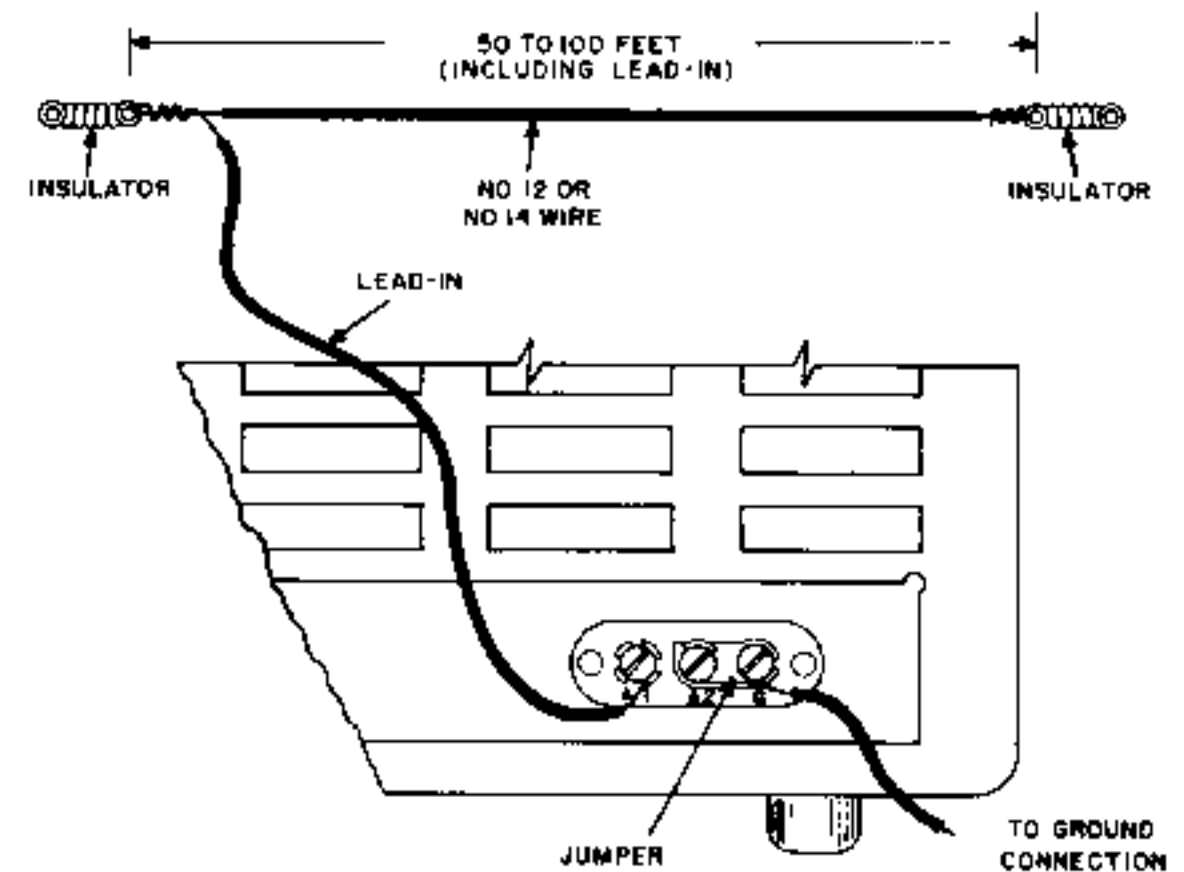

Fig. 3. Single Wire Antenna Installation 9281550
1. Construct the antenna as shown in Fig. 3 and connect it to A1.